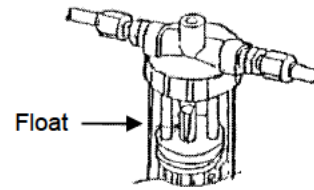

Figure 2: MC filter with flow monitor
(6) Slowly turn the needle valve clockwise until the float of the MC filter with flow monitor makes contact with the upper stopper and moves up and down by one to two millimeters. (Figure 2)